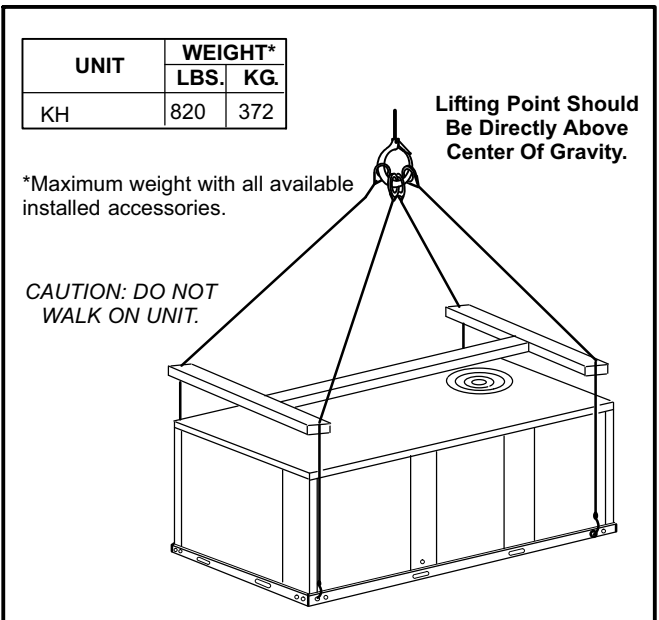

FIGURE 2
- 3- Connect rigging to the unit base using both holes in each corner. See figure 2.